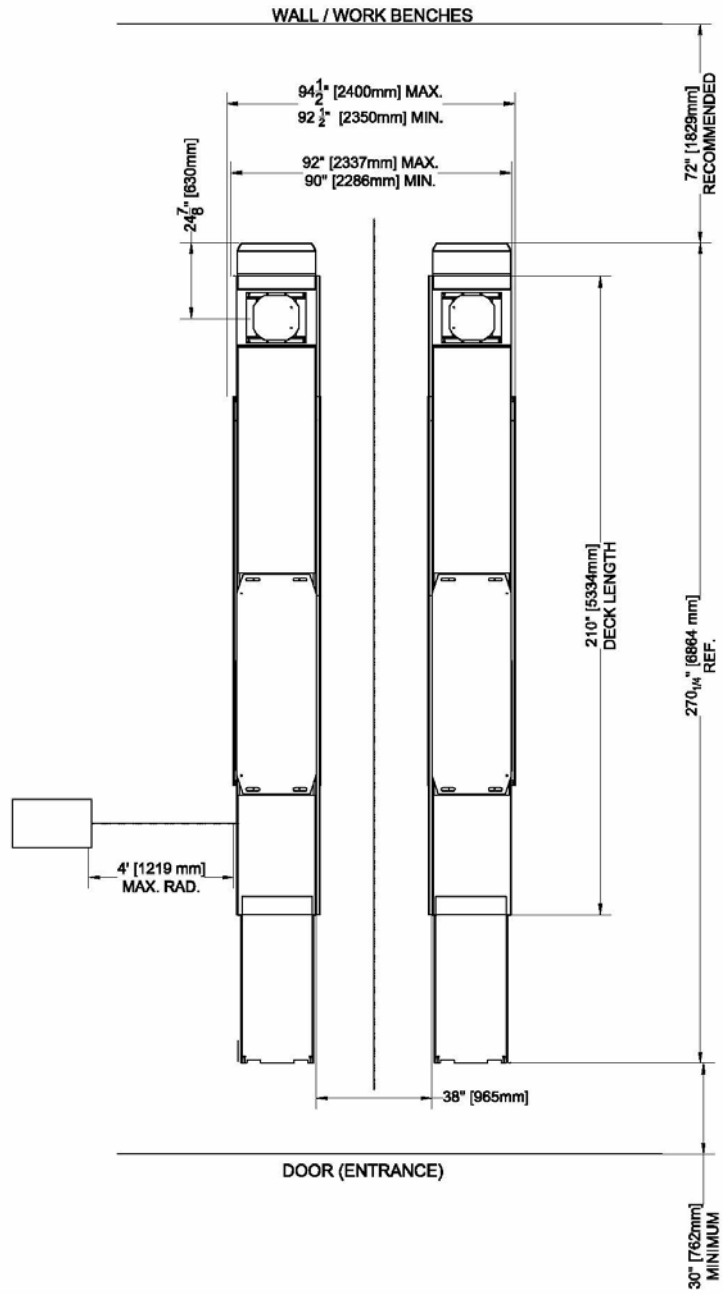

Figure 3(b) - Typical Bay Layout (Surface Mount)
1. With reference to **Figure 3**, the installer should locate the most suitable location in the shop for the lift.